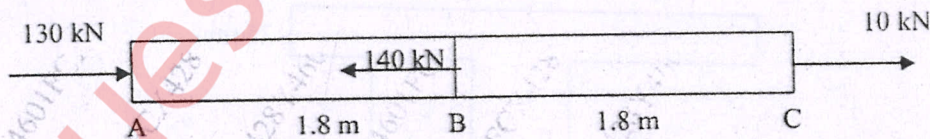

Fig. 4
Q. 4) a) A steel bar shown in fig. 4 has a diameter of 60 mm. Determine change in the length of bar. Young's modulus is 2.1×10^5 MPa. (05 M)